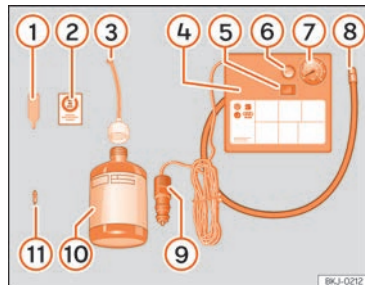

Fig. 31 Standard representation: anti-puncture kit contents.
» **Fig. 31:**
- Unscrew the tyre valve cap and insert. Use the »» Fig. 31 ① tool to remove the insert. Place it on a clean surface.
- Shake the tyre sealant bottle vigorously »» Fig. 31 ⑩.
- Screw the inflator tube »» Fig. 31 ③ into the sealant bottle. The bottle's seal will break automatically.
- Remove the lid from the filling tube »» Fig. 31 ③ and screw the open end of the tube into the tyre valve.
- Place the insert back into the tyre valve using the tool »» Fig. 31 ①.
- Screw the compressor tyre inflator tube »» Fig. 31 ⑧ into the tyre valve.
- Check that the air bleed screw is closed »» Fig. 31 ⑥.
- Insert the connector »» Fig. 31 ⑨ into the vehicle's 12-volt socket »» page 136.
- Turn the air compressor on with the ON/OFF switch »» Fig. 31 ⑤.
- Attach the sticker »» Fig. 31 ② to the instrument cluster, within the driver's visual field.
Screw the inflator tube >>> Fig. 31 ⑤ again and check the pressure on the gauge ⑥.